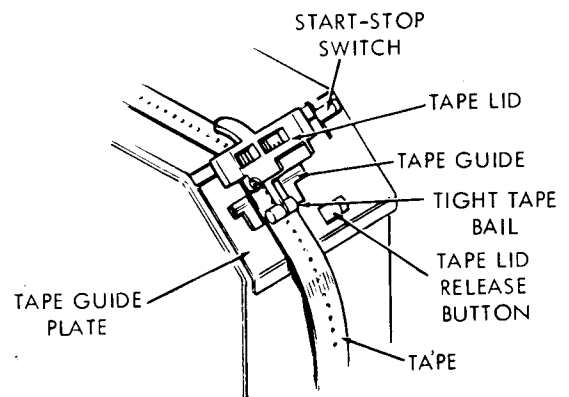

Figure 3-1. Path of Tape in Distributor-Transmitter
- b. Make certain the start-stop switch (figure 3-1) is either in the OFF (center) or FREE (left) position. Depress the red tape lid release button to raise the spring loaded tape lid. Place the tape feed perforations on the teeth of the tape feed wheel. Two code perforations appear above and three below the tape feed perforations. When tape is placed in the transmitter, the two perforation side should be toward the back of the transmitter. Hold the tape down flat, and close the tape lid manually. The code holes positioned immediately above the five sensing pins will be the character first transmitted. When printed tape is used, the position of this character can be determined by reference to the index mark scribed on the reading head six characters behind the sensing pin. The printed character immediately above the index mark corresponds to the code positioned over the sensing pins. With the stop-start switch in free wheeling position, the tape may be positioned forward or back freely to the desired character.
- b. TIGHT OR TANGLED TAPE. (See figure 3-1.) — When the input tape becomes taut or tangled to the extent that its passage over the feed mechanism might be impeded, the tape elevates the tight tape lever on the tape lid. This interrupts the control circuit and stops the distributor-transmitter until the condition of the tape is corrected. Transmission will then resume automatically.
- c. TAPE-OUT. (See figure 3-1.) — At the end of a tape or if the input tape is torn, a tape-out pin similar to the sensing pins and located just in advance of the sensing pins is permitted to extend beyond its normally depressed position. The tape-out pin then